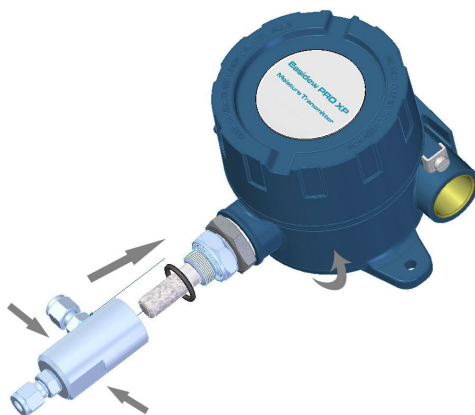

Figure 8 *Transmitter Mounting - Sample Block*
2. Insure the O-ring (see *Figure 8*) is located correctly within the O-ring groove of the process connection and there is no contamination or debris on its exposed surfaces.